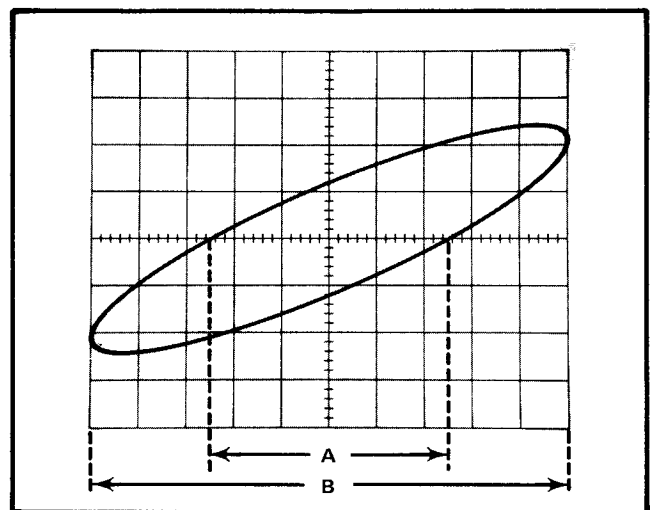

Fig. 2-29. Phase-difference measurement from an X-Y display.
4. Center the display in relation to the center graticule lines. Measure the distance A and B as shown in Fig. 2-29. Distance A is the horizontal measurement between the two points where the trace crosses the center horizontal line. Distance B is the maximum horizontal width of the display.
Example. To measure the phase of the display shown in Fig. 2-29 where A is 5 divisions and B is 10 divisions, use the formula: